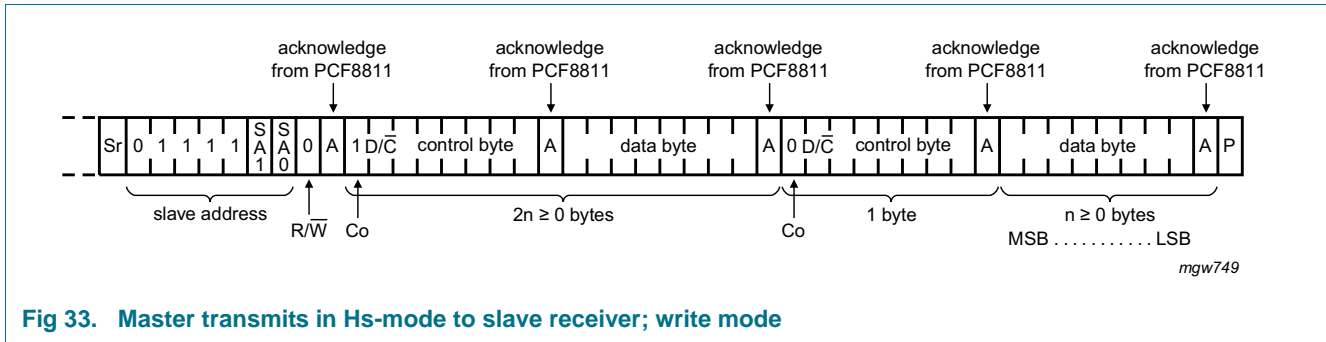

Fig 33. Master transmits in Hs-mode to slave receiver; write mode
A write sequence, after the HS-mode is selected, is shown in Figure 33. The sequence is initiated with a START condition (S) from the I²C-bus master which is followed by the slave address. All slaves with the corresponding address acknowledge in parallel, the remainder ignores the I²C-bus transfer.
After the acknowledgement cycle of a write (\overline{W}), one or more command words will follow which define the status of the addressed slaves. A command word consists of a control byte, which defines continuation bit Co and D/\overline{C} , plus a data byte, see Figure 33 and Table 11.